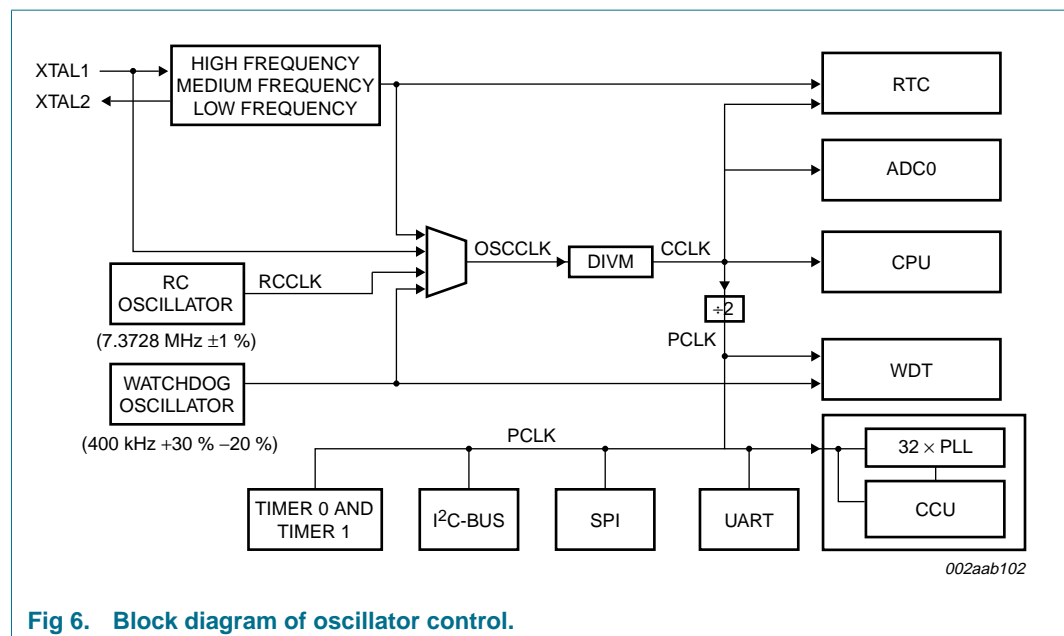

Fig 6. Block diagram of oscillator control.
**OSCCLK** — Input to the DIVM clock divider. OSCCLK is selected from one of four clock sources (see Figure 6) and can also be optionally divided to a slower frequency (see Section 7.8 “CCLK modification: DIVM register”).